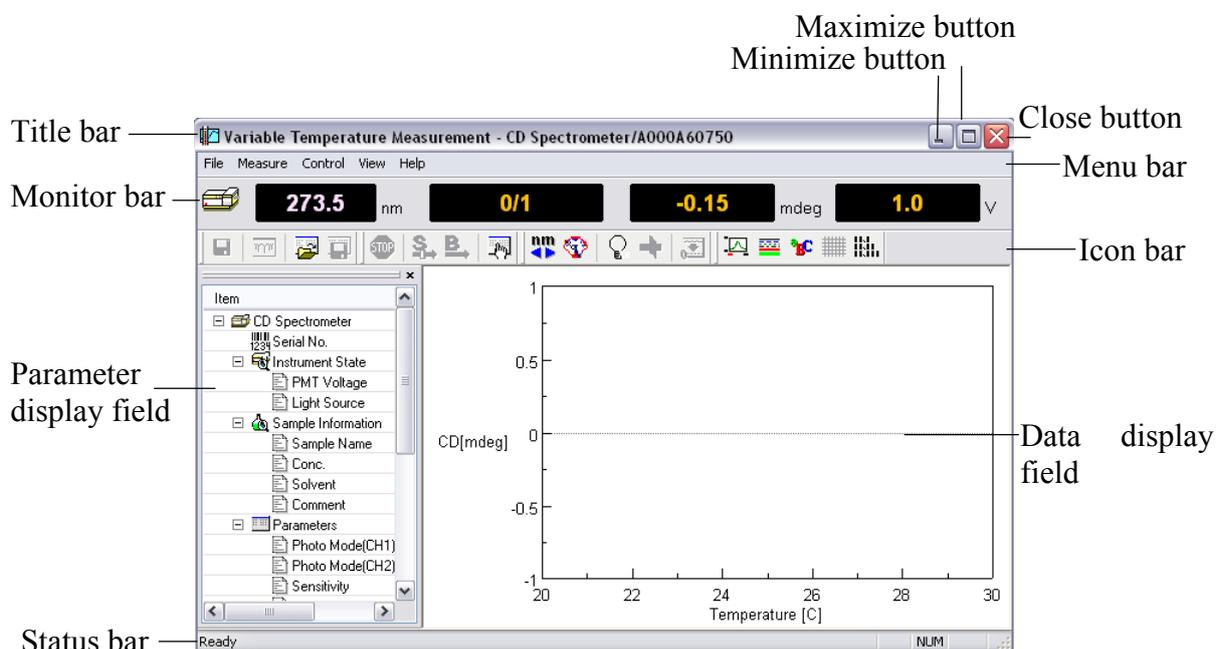
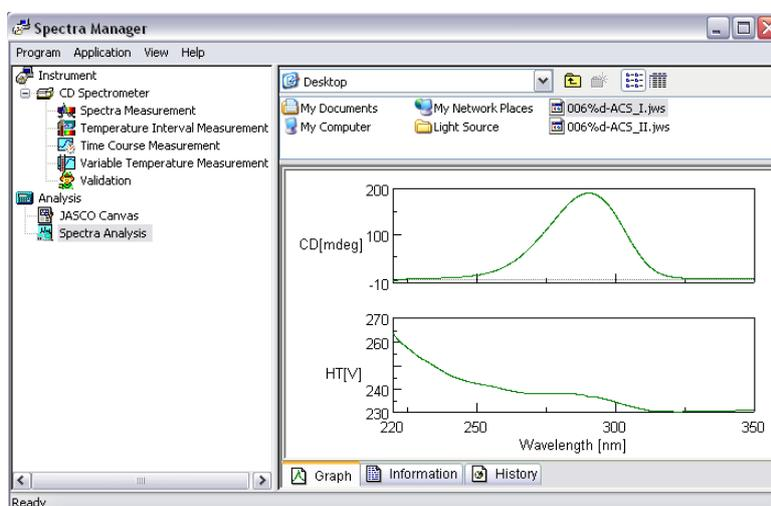

Figure 1.1 [Variable Temperature] window
Figure 1.2 [Spectra Manager] window
Figure 1.1 depicts the names of features in the program window of the [Variable Temperature Measurement] program (the [Temperature Interval Scan Measurement] program is the same). Figure 1.2 is displayed by clicking the [Variable Temperature Measurement] menu of Figure 1.2.
Note: Figure 1.1 depicts only one channel of data, but this program can display up to a maximum of four channels of data simultaneously when measurement starts.
This is the first window that appears when the [Spectra Manager] program in the [JASCO] menu is started (see Figure. 1.2). The left side of the window shows the installed programs, which are the J-800 [Spectra Analysis], the J-800 standard program and the [Thermo Controlling] program. From this window it is possible to control the operation of the spectrometer and program, transfer data files into [Spectra Analysis], open graphs and information as a data file, display the directory of the data file and open the [Administrative Tools].
Note (1): Figure. 1.1 shows one channel of data, but this program can display a maximum of four channels of data simultaneously when measurement starts.